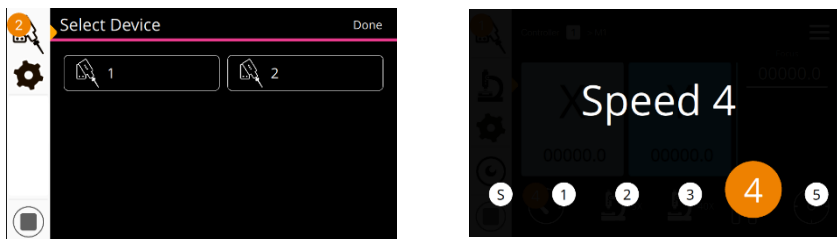

Figure 34. Left, manipulator selection. Right, speed setting selection.
- Use uMp-RW3 or uMp-RW4 push buttons on the right side or press manipulator symbol in the uMp-TSC2 main view to change between different manipulators (Figure 34, left)
- Use uMp-RW3 or uMp-RW4 push buttons on the left side or press the speed selection symbol in the uMp-TSC2 main view to change the speed setting (Figure 34, right)